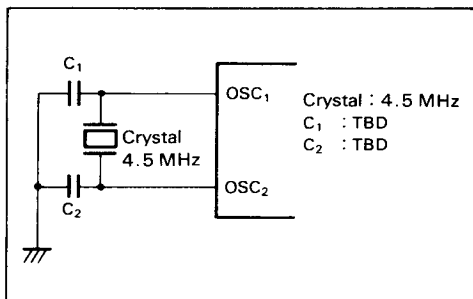
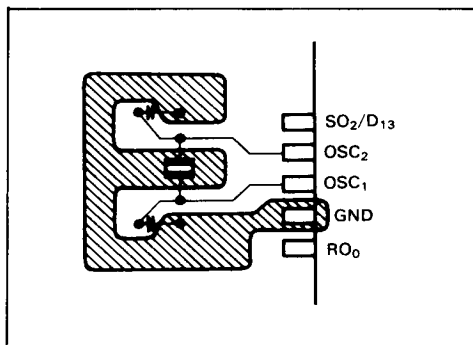

Figure 55. Crystal Oscillation Circuit
Figure 56. Crystal Oscillation Circuit Layout
Figure 55 is an example of a crystal oscillation circuit, and its layout example is shown in figure 56.
2. Wiring between OSC1, OSC2, and elements should be as short as possible, and never cross other wires. (See figure 56.)